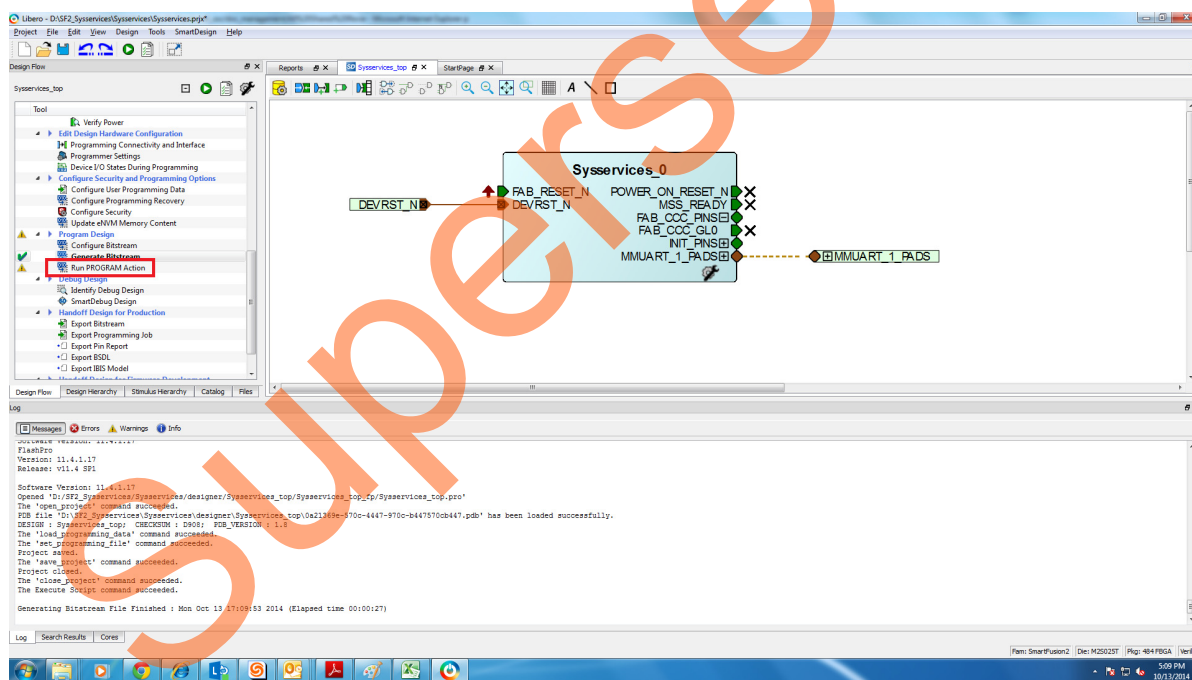

Figure 21 • Run Programming Action
5. To program the SmartFusion2 device, double-click **Run PROGRAM Action** in the **Design Flow** window as shown in Figure 21.